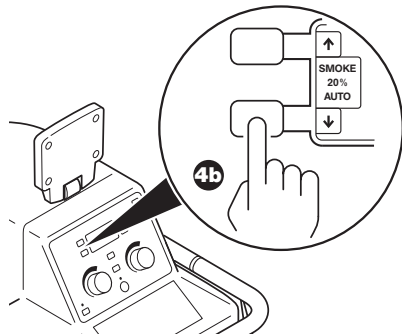

Figure 16 To Adjust Smoke Evacuation
- b. From the control panel display, push the buttons next to the arrow icons to adjust the smoke evacuator power (Figure 16). Make sure the smoke evacuation functions correctly. If not, see the *Troubleshooting* section and the *Error Code Messages* section.